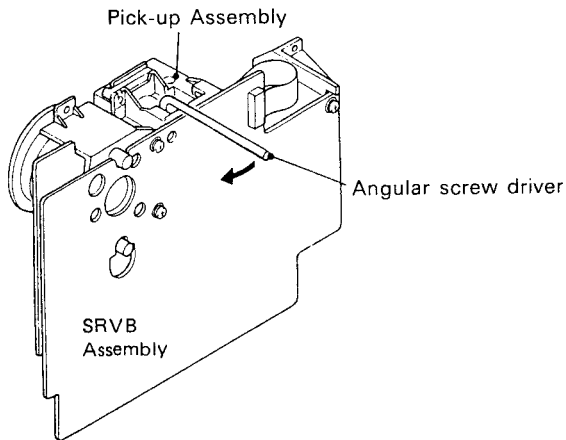

Fig. 10-2-7 Grating adjustment
- ① Turn the POWER switch ON and set the player for the standby mode.
- ② Adjust VR1 so that DC voltage of TP2-3 (FOCS error signal) is set at $0V \pm 5mV$.
- ① Remove the stopper screws of the SRVB Assembly.
- ② Set a test disc to PLAY mode. If the grating adjustment is far off, the PLAY lamp on the front panel will flash, but the PLAY operation will not commence. In such instances, perform the grating adjustment as follows:
- ③ Press the PLAY key.
- ④ When the spindle accelerates sufficiently, set the TRKG servo loop to OPEN.
- ⑤ Press the clear key on the remote controller.
- ⑥ Press the display selector key on the remote control to display the frame number on the TV monitor screen.
- ⑦ Move the pick-up Assembly to frame NO. #15000 using the Fast Forward key (plus). (When test disc N1 is used, move the pick-up Assembly to frame NO. #16000).
- ⑧ Set angular screw driver I to the grating as shown in Fig. 10-2-7.